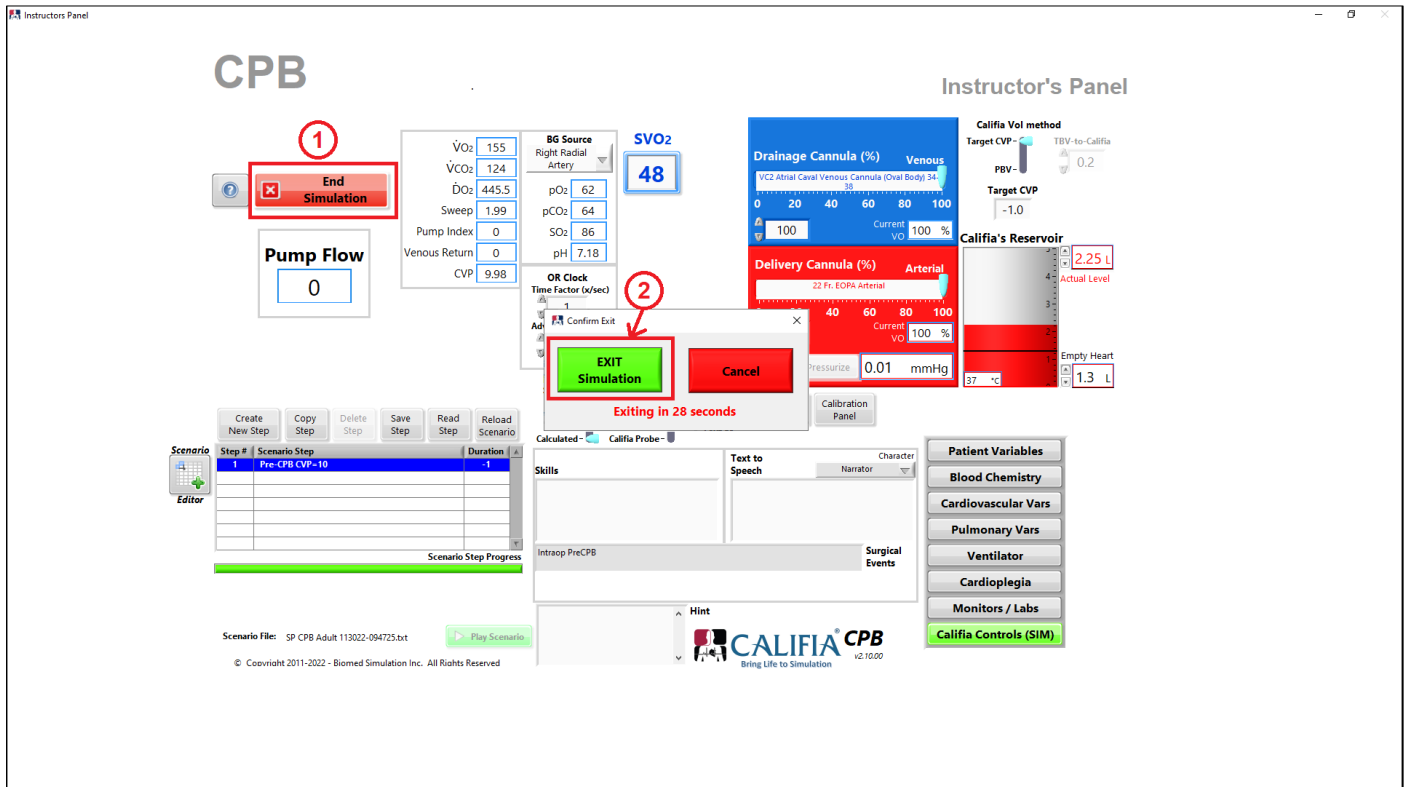

Figure 5.23 End Simulation
Figure 5.23, press **End Simulation** button, ①; confirm request to return to **Opening Screen**, ②.